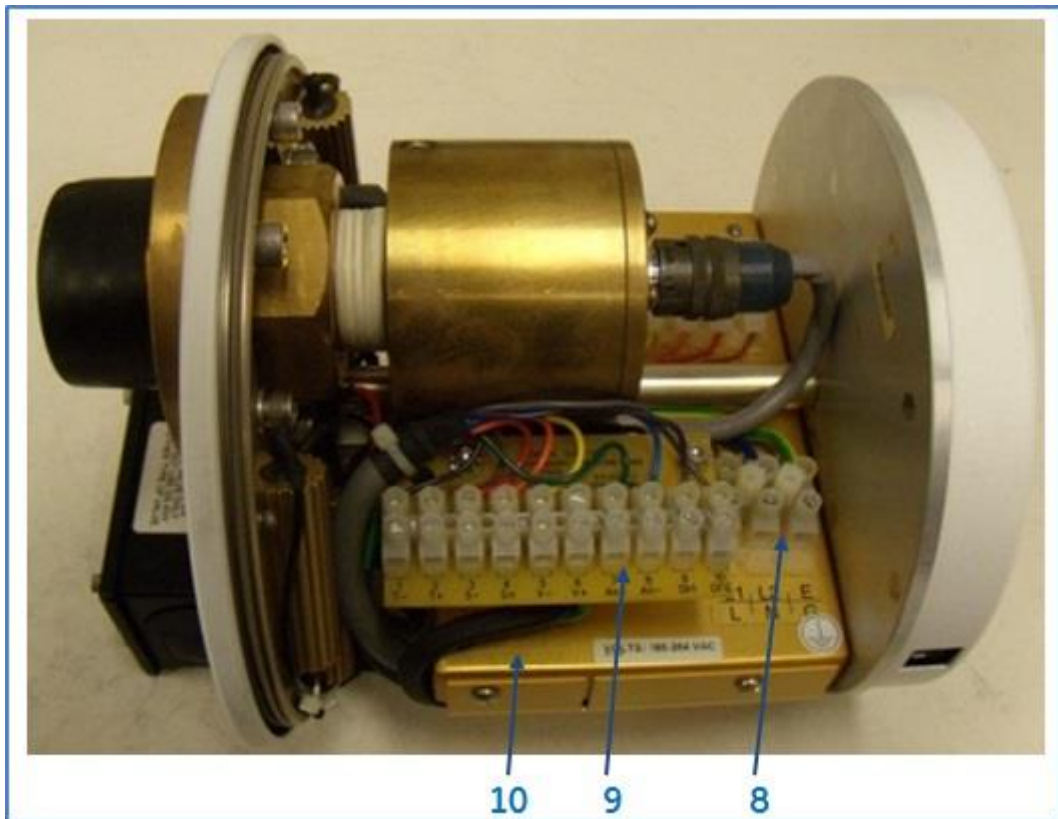

Figure 3-4: First View of the Top Side of the I/O Module
8. *AC Power 3-Terminal Block* (in Figure 3-4): The terminal has a 300-V rating and accepts 22–14 AWG wires (2.5 mm² nominal). For wiring details, see Table D – 1 in Appendix D.
9. *Supervisory Link and Analog Output Termination Board* (in Figure 3-4 below): The terminal has a 300-V rating and accepts 26–14 AWG wires (1.5 mm² nominal). It is protected against surge and electromagnetic interference. For wiring details, see Table D - 6 in Appendix D.
10. *AC Line EMI Filter* (in Figure 3-4 below): The line filter, located beneath the Supervisory Link and Analog Output Termination Board (item 9), blocks the electromagnetic interferences conducted in the ac power supply.